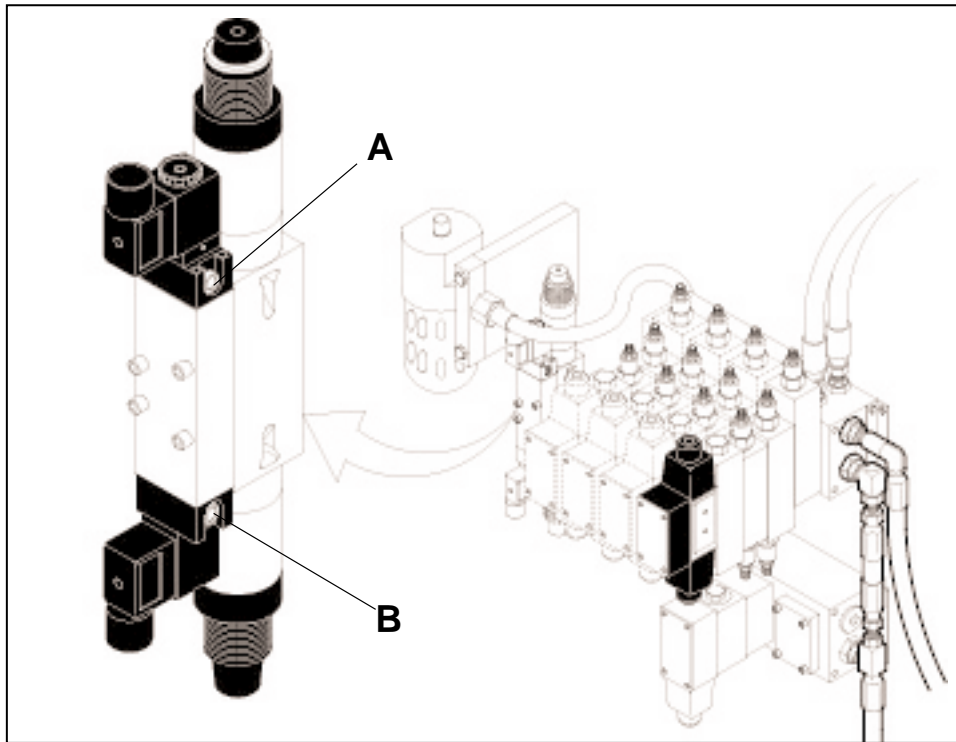
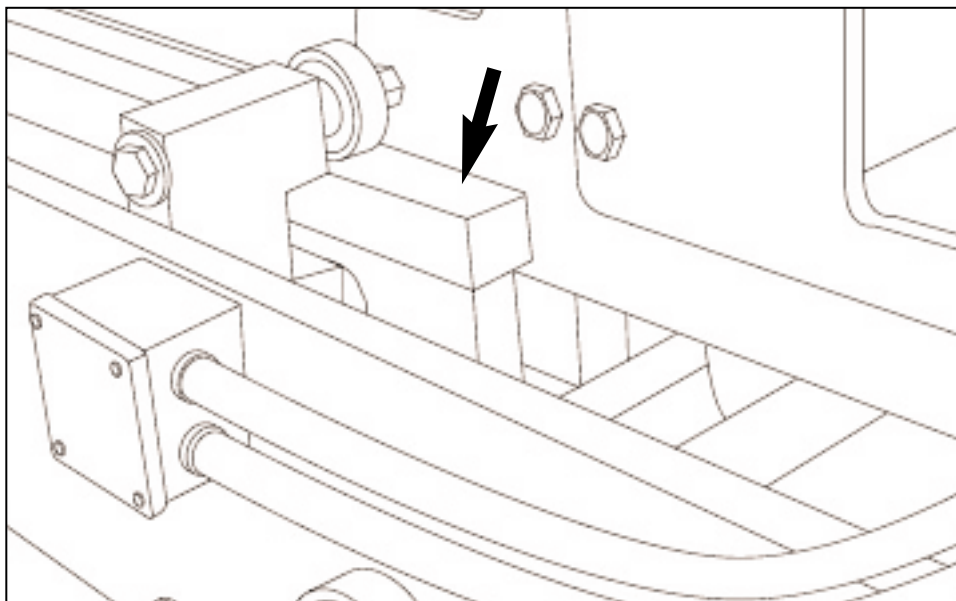
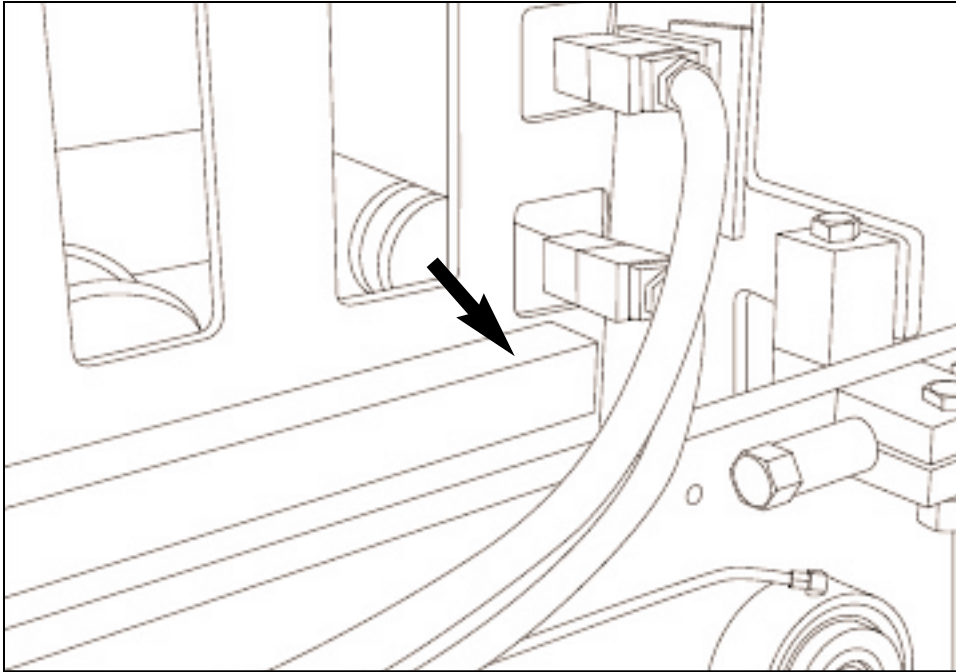
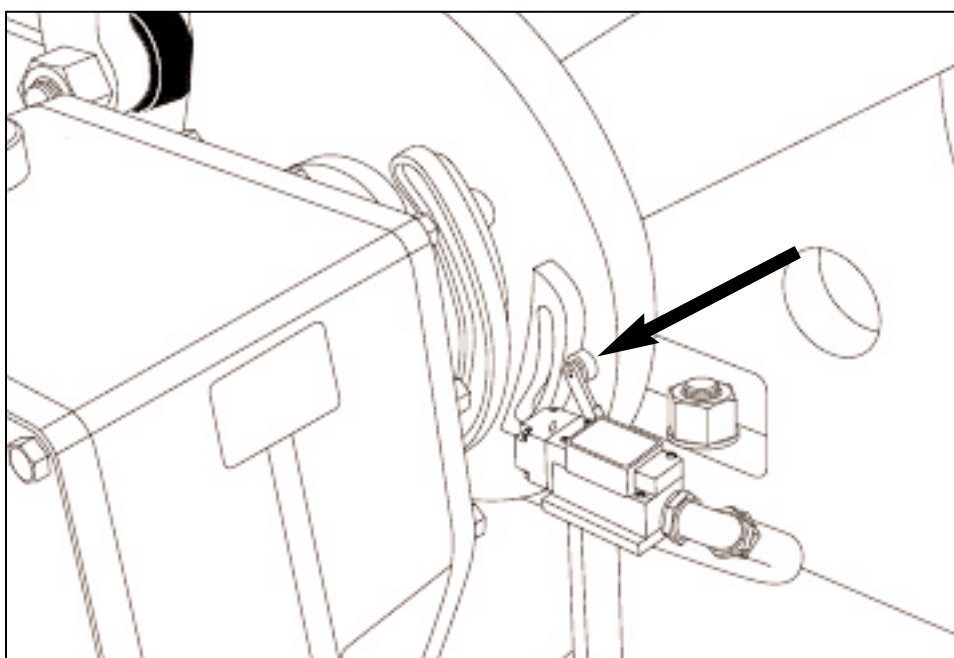

Figure 6.7 POSITIONING BLOCK MOVING BARS.
Figure 6.8 EXTREME FORWARD POSITION OF BLOCK MOVING BARS.
Figure 6.11 EXTREME BACK POSITION OF BLOCK MOVING BARS.
Figure 6.19 LIMIT SWITCH ACTUATOR.
- 6.2.2 Use the two push buttons on valve (figure 6.7) to jog block delivery bar motor until block delivery bars are full forward (see figure 6.8), both link pins and gear box shaft are in line. Top button(A) jogs bars forward and bottom button(B) will jog bars backward.
6.2.5 Use the two push buttons on valve (figure 6.7) to jog block delivery bar motor until arms are fully back (see figure 6.11). In this position, the pins in the link will be aligned with the gearbox shaft.
6.2.10 Adjust the actuator for LS-6 to trip the switch by 2" [51mm] (see figure 6.19).
6.2.15 Run machine and, at the moment where the pallet is beginning to be lifted off the chain, make sure the pallet is centered on the cradle. If pallet is not in center of cradle, adjust chains (refer to 6.2.8). When delivery arms come all the way back (see figure 6.11), drive link to cam must be in line with gear box shaft; if not, adjust actuator for LS-6 (see figure 6.19).